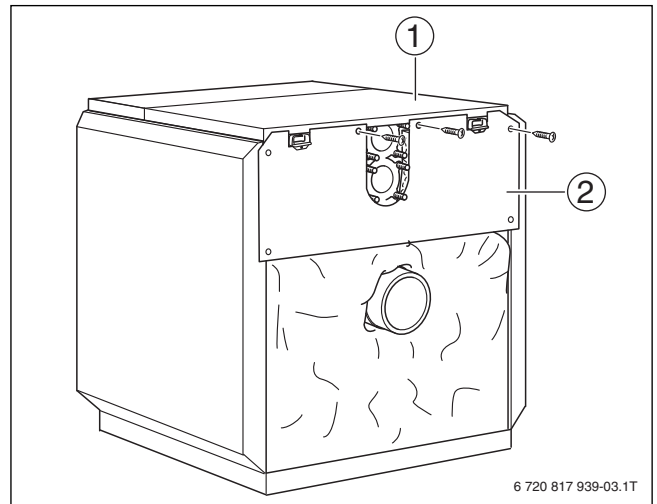

Fig. 41 Fitting the rear boiler panel
- Screw the top rear boiler panel (Fig. 41, [2]) to the back of the cover (Fig. 41, [1]) and the side panels.